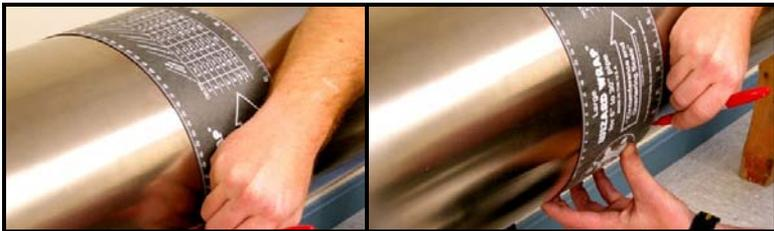

Figure 3-5: Measuring and Marking Circumference Lines
3. Measure the outside diameter (OD) of the pipe using a tape measure or the supplied layout tape. Using the entire layout tape, mark two circumferential lines along the edges of the wrap, as shown in Figure 3-5 below.